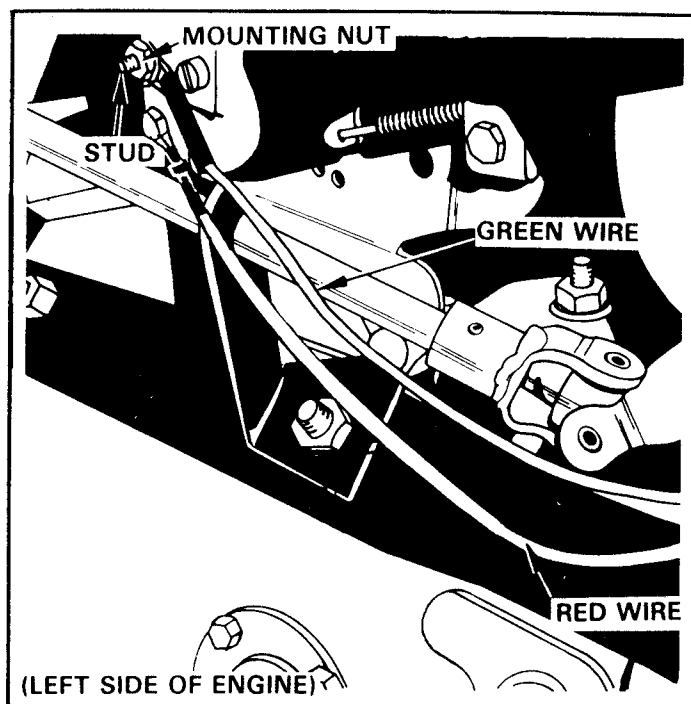

FIGURE 59
7. Remove existing wiring from engine rear. Route the Green and Red Wires around the back of the engine. Attach the terminal of the green wire to the stud on the engine as shown in Figure 59. Attach the terminal of the red wire under the existing screw which was removed when detaching the existing wire. See Figure 59.